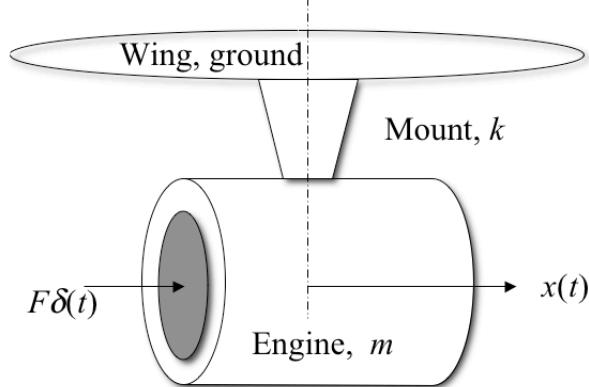

Figure P3.14 Model of a jet engine in transverse vibration due to a bird strike.
- 3.14 Consider the jet engine and mount indicated in Figure P3.14 and model it as a mass on the end of a beam as done in Figure 1.24. The mass of the engine is usually fixed. Find an expression for the value of the transverse mount stiffness, k , as a function of the relative speed of the bird, v , the bird mass, the mass of the engine and the maximum displacement that the engine is allowed to vibrate.